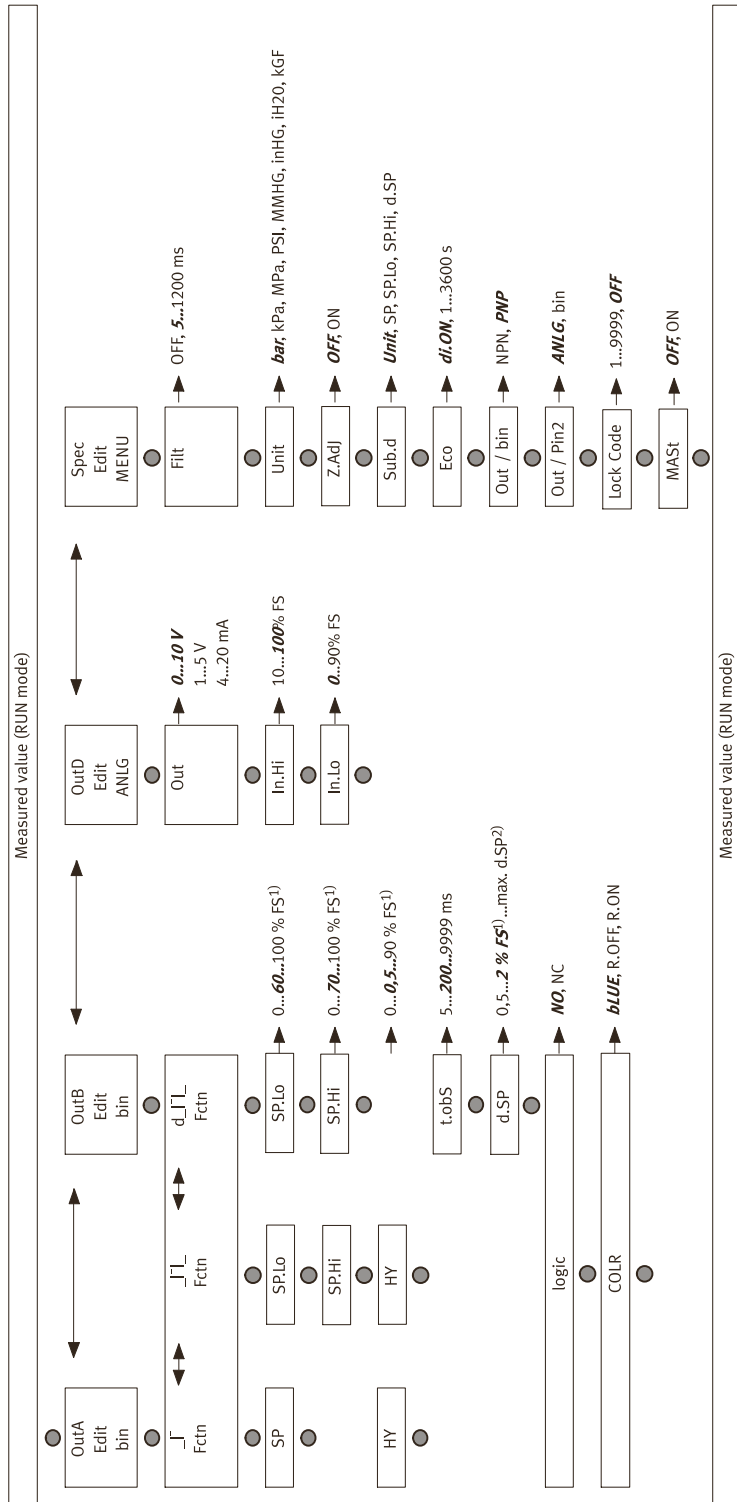

Fig. 7
The process is the same for configuring the switching outputs for OutA and OutB. In the following, the process is described using the switching output OutA. Menu structure → Fig.7
**Legend for → Fig.7**
→ Fig.7